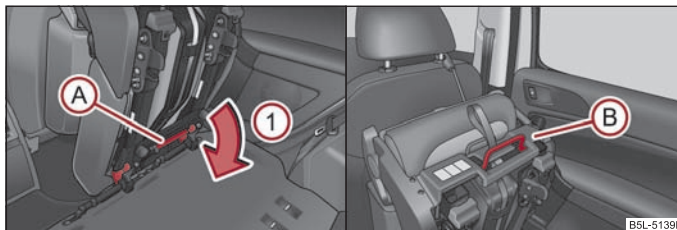

Fig. 65 Unlocking the folded forward seat/carrying handles on the seat cushion
- Unlock the folded forward seat by pressing the seat locks in direction of arrow ① ⇒ page 70, fig. 65.
- Remove the seat by way of the carrying handles on the seat cushion (A) ⇒ page 70, fig. 65 and (B).
- Fold the outer seat forwards ⇒ page 70 and lock it ⇒ page 70, fig. 65.